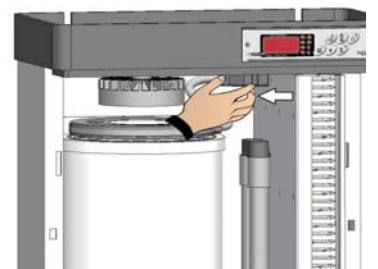

Fig. 32
- Detach the electrical connector from the cylinder (fig. 32)